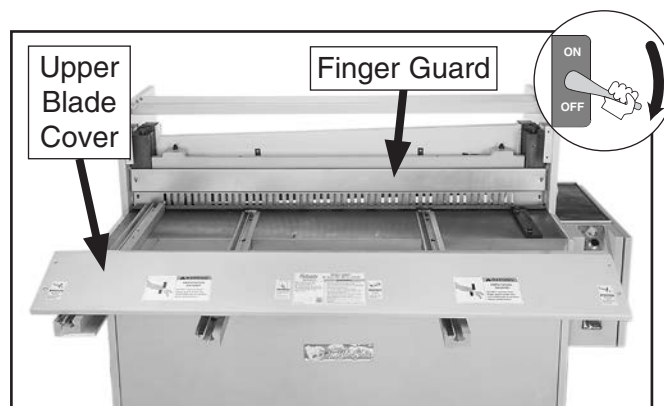

Figure 59. Upper blade cover and finger guard removal.
2. Remove upper blade cover and finger guard (see **Figure 59**).